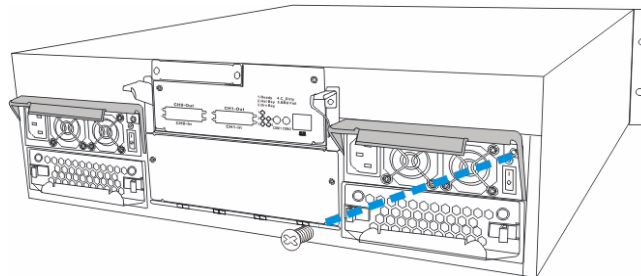

Fig. 6.12 Removing the PSU Retention Screw
3. Remove the PSU retention screw at the top right-hand side of the PSU. (See *Figure 6.12*)